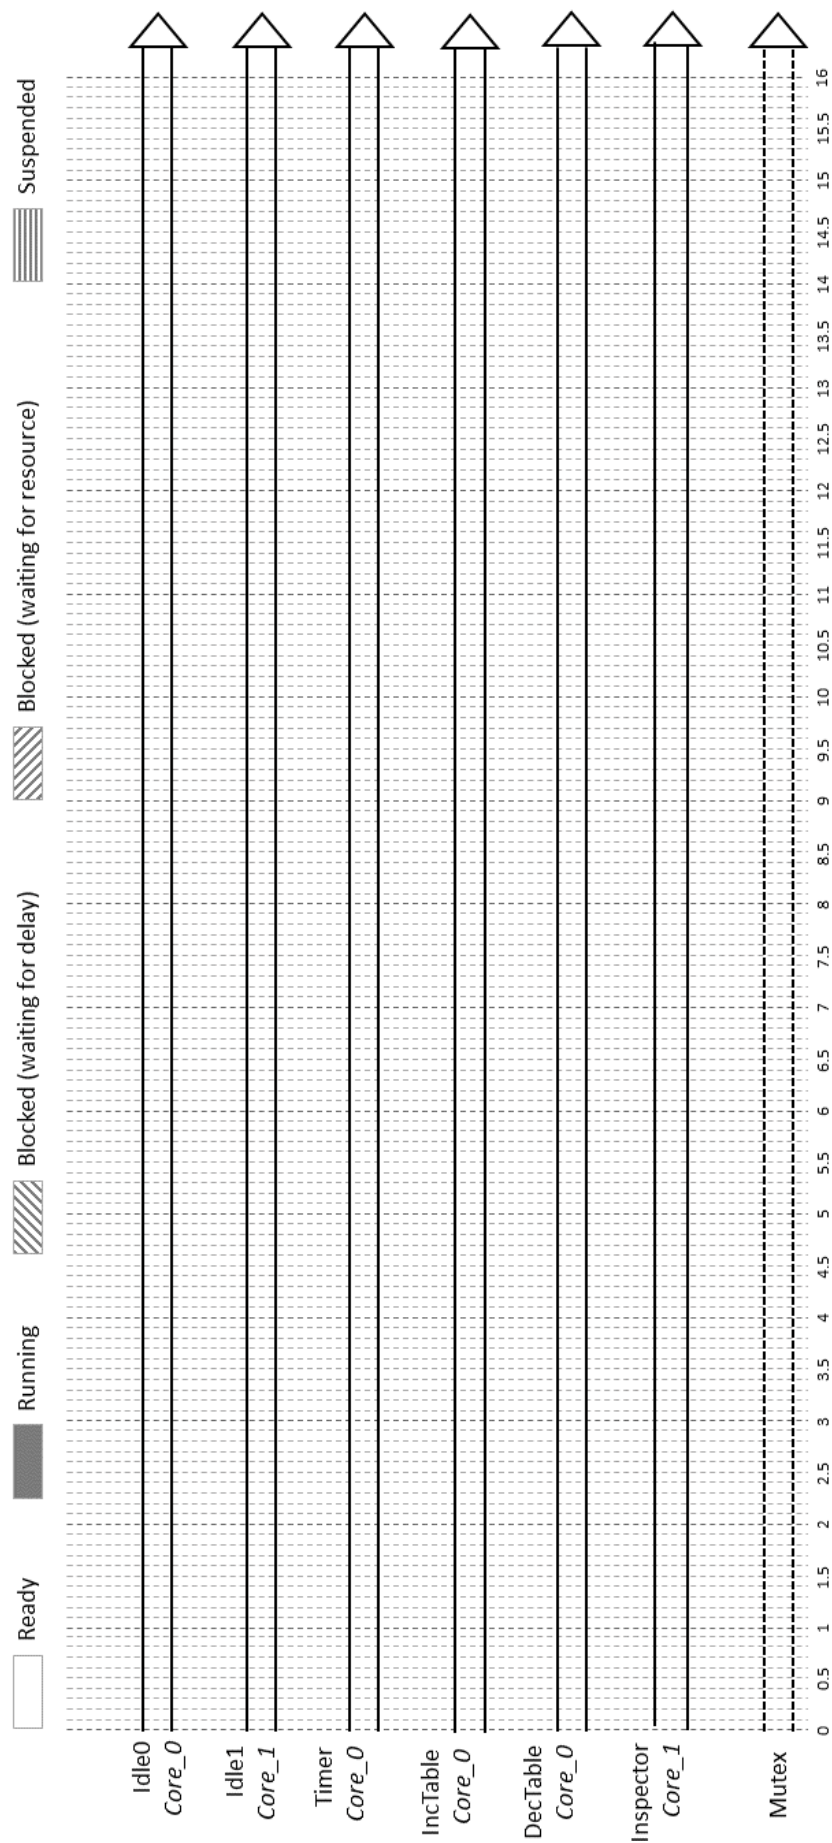

FIGURE 3.8 – Program with Task inspector on the Core_1 and Mutex.
12. We now decide to add a delay of 2 ticks after giving the mutex (using *vTaskDelay()* function). Run the program, copy the console, trace in the figure 3.8 the behavior of the 3 tasks and Mutex until 90 ticks and explain the behavior.